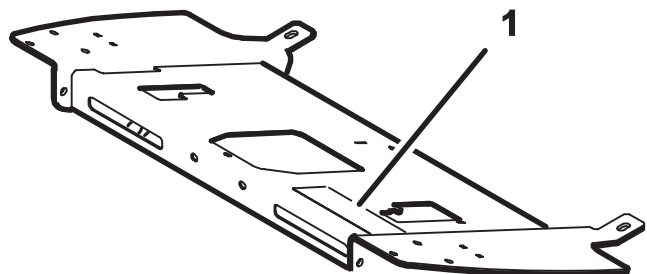

Figure 3
1. Affix the danger decal over the existing decal on the operator platform (Fig. 3).